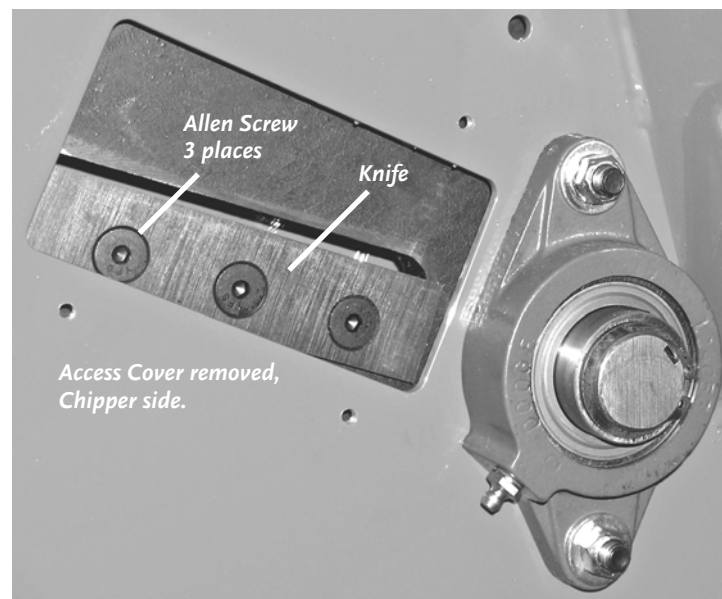

Figure 14
1. Using a 5/16" Wrench, remove both Access Covers (Chipper and Drive Side) from the Chipper Box (**Figure 14**).
2. Rotate the Chipper Disk using a stick until the three (3) countersunk Allen Screws and Lock Nuts attaching the Knife to the Flywheel are visible through the Access Openings (**Figure 14**).
6. Repeat Steps 4 and 5 for the remaining two (2) Allen screws.
10. Double-check all three (3) Screws and Nuts for tightness one more time.